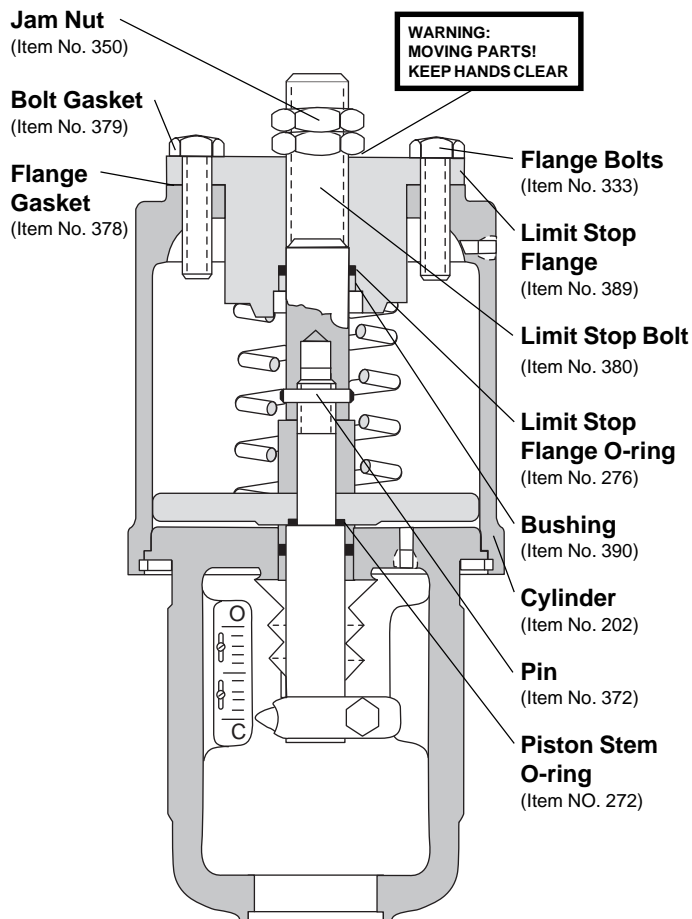

Figure 7: Pull-only Limit Stop
1. Loosen the limit stop jam nuts (see Figure 7).
Refer to figure 7:
Refer to Figure 7: